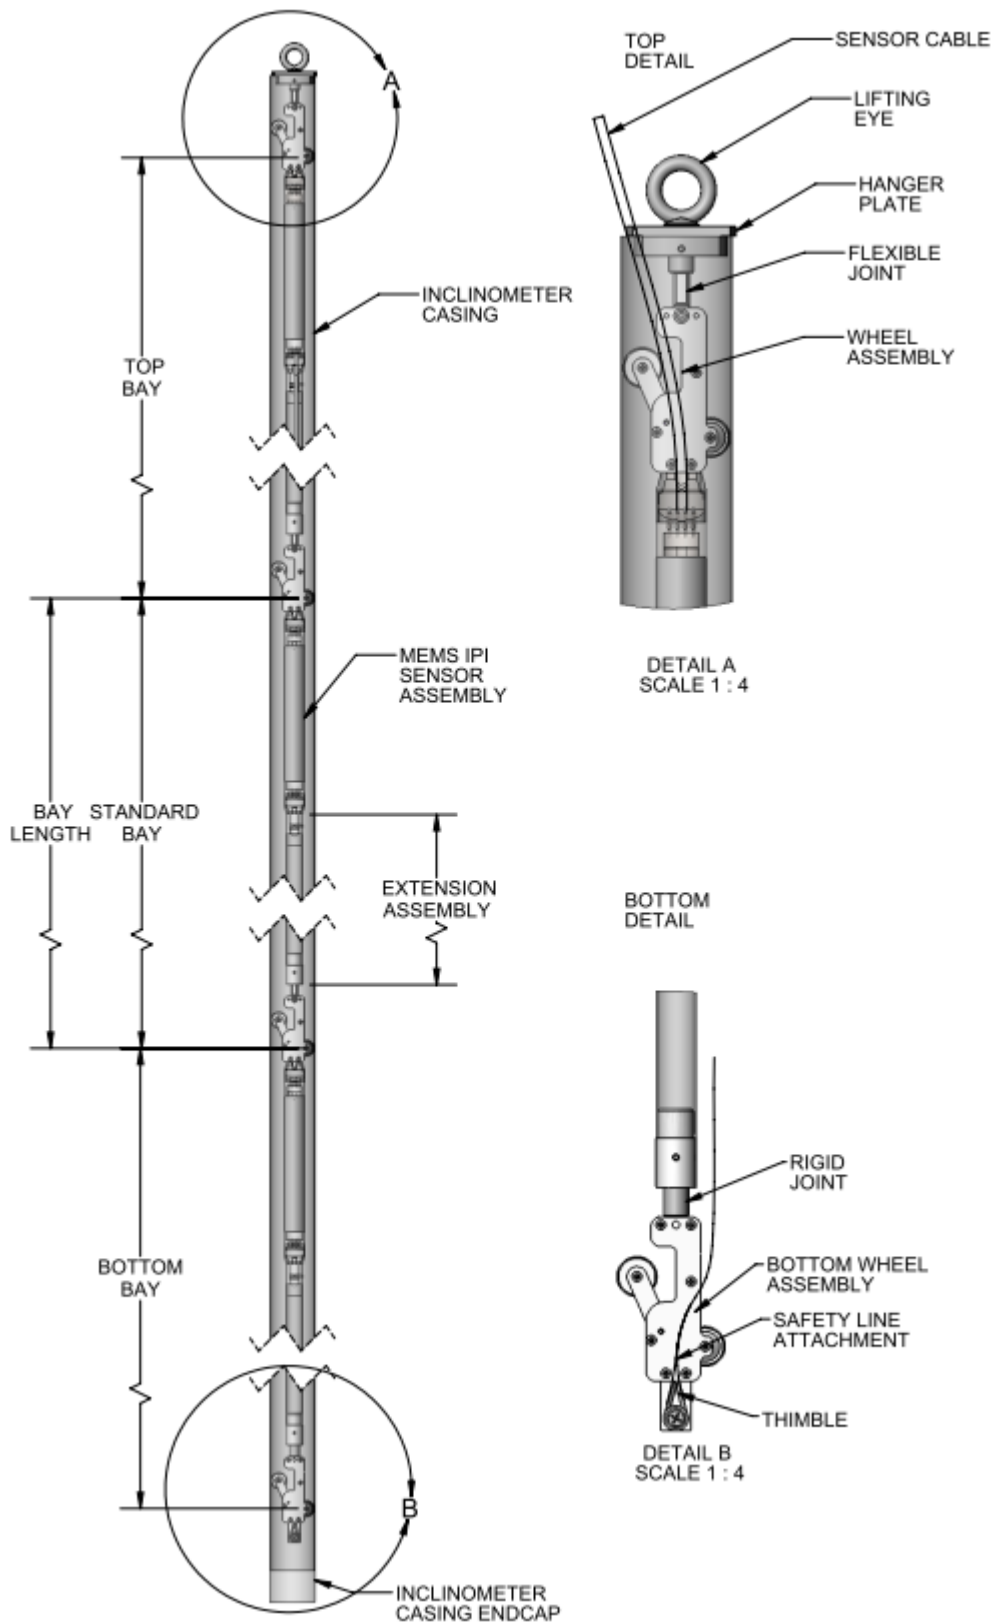

Figure 2: MEMS IPI General Arrangement
1. Attach a safety line to the bottom wheel assembly (see Figure 2). For best control and safety on deep installations, this safety line should be secured to a winch. Contact RST for further details.